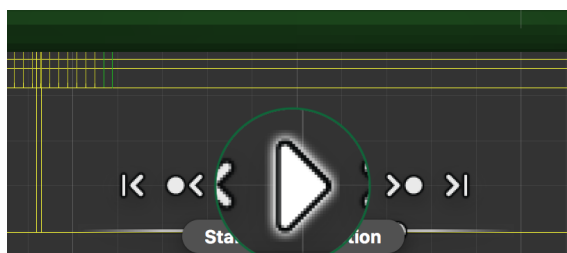

FIGURE 1.36: STARTING A SIMULATION.
- Click **Start Simulation** button, Figure 1.36.